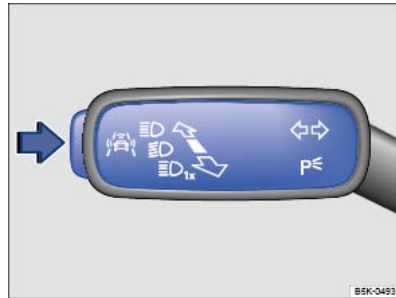

Fig. 26 On the turn signal and main beam lever on the left of the steering column: button for driver assist systems.
- Press the button ⇒ *Fig. 26* in the direction of the arrow to open the **Assist systems** menu.